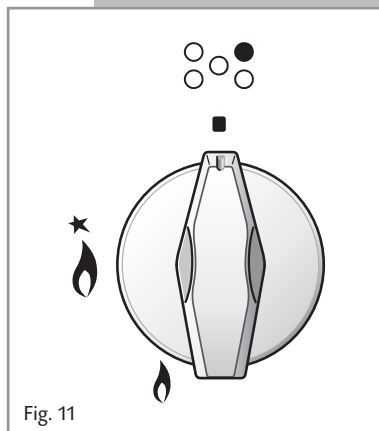

Fig. 11
Each hob burner is controlled by a separate gas valve operated by a control knob (fig. 11) which has 3 positions marked on the control panel, these are:
- 1 - Press in the corresponding knob and turn counter-clockwise to the full flame position marked by the  symbol (fig. 11) and hold the knob in until the flame has been lit.